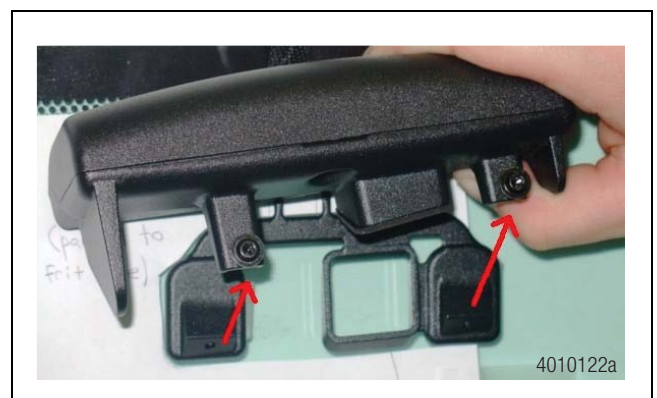

Figure 3.4
5. Rotate the LDW unit upward and back slightly to disengage from the bracket. Figure 3.4.